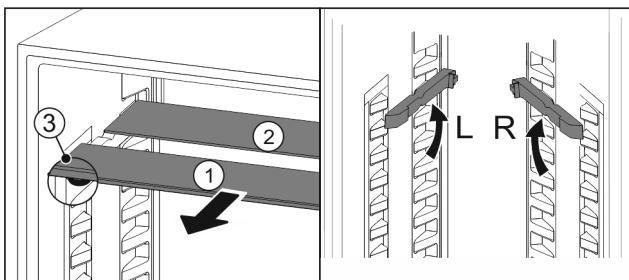

Fig. 112
- ▶ Pull the glass panels out Fig. 112 (1) from the front, one at a time.
- ▷ The glass panel Fig. 112 (1) and trim strip are at the front.
- ▷ The stops Fig. 112 (3) point down.